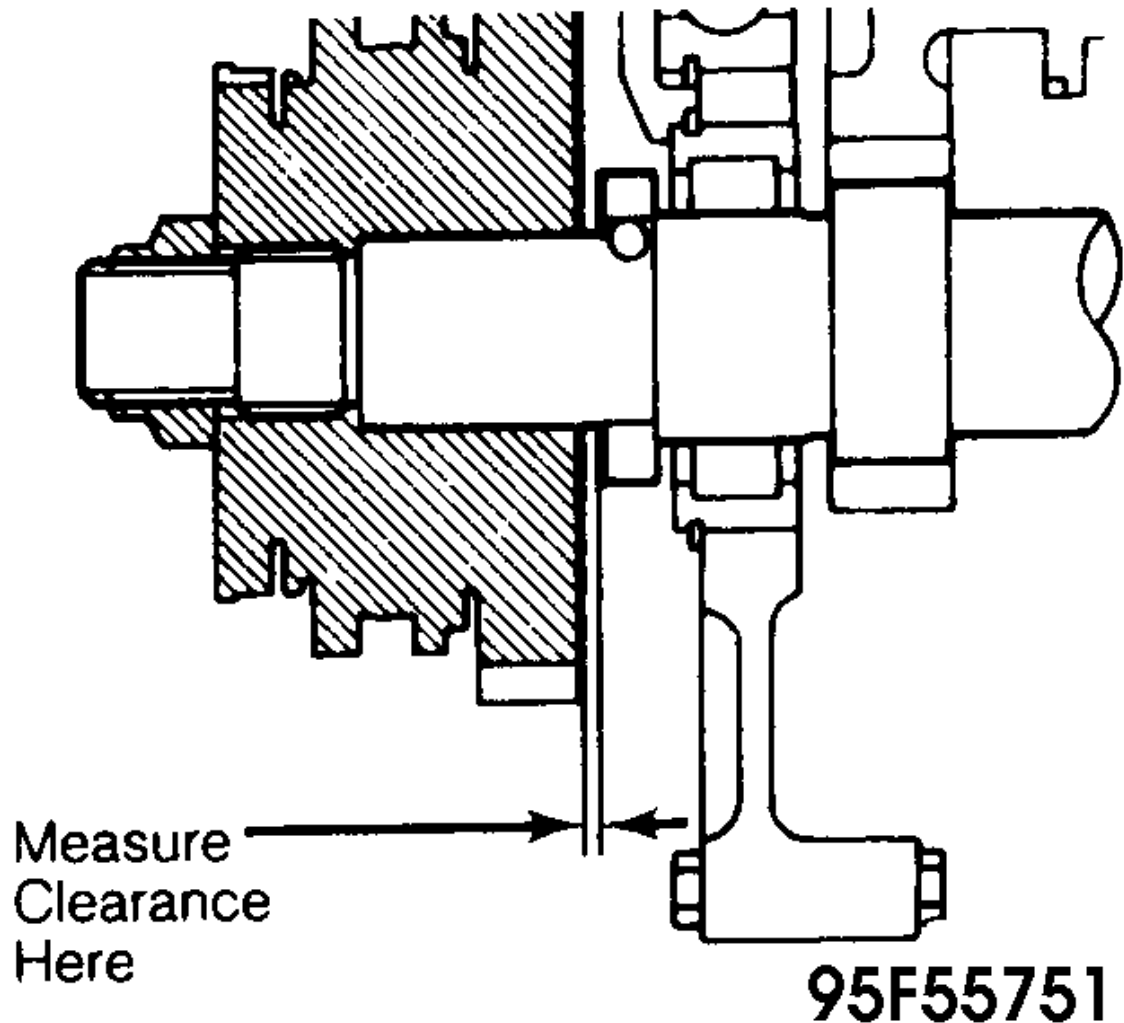

Fig. 4: Measuring Point For Countershaft 5th Gear Thrust Clearance
1. Remove reverse idler gear shaft stopper. Remove reverse idler gear and shaft. Remove reverse shift arm from reverse shift arm bracket. Measure countershaft 5th gear thrust clearance. See Fig. 4.